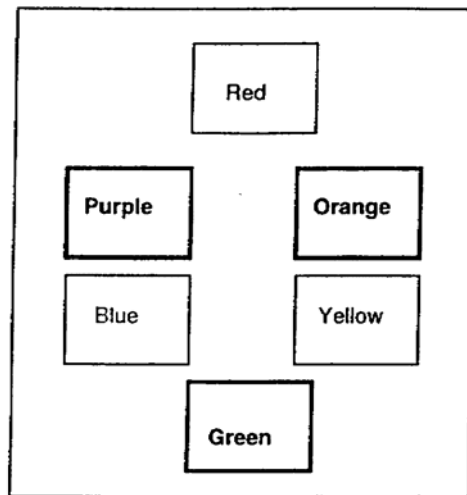

Figure 2-2. Secondary colors
(2) Secondary colors. Secondary colors (Figure 2-2, page 2-14) are made by mixing any two of the primary colors together. For instance, yellow and red form orange; red and blue form purple; and blue and yellow form green.